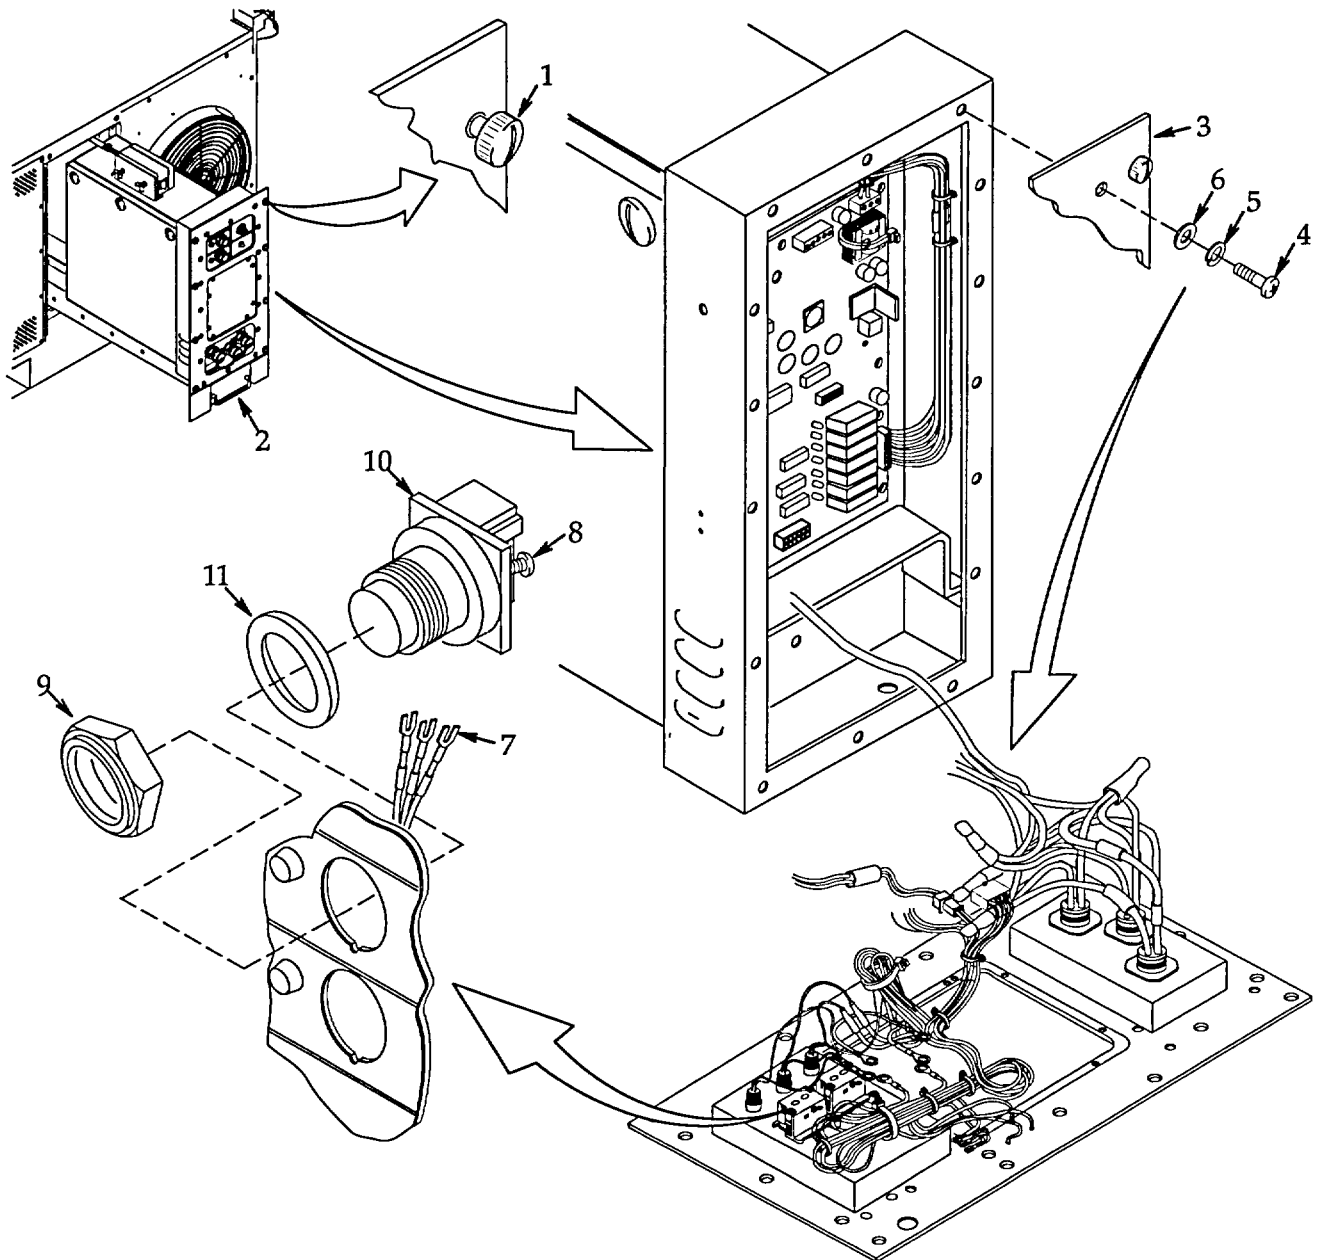

Figure 4-42. Push Button Switches (S4 & S5).
- a. **Removal.** See figure 4-42.
- (1) Shutdown the FDECU per paragraph 2.4 and disconnect it from power source.
- (2) Loosen eight captive screws (1) and carefully pull the electrical assembly (2) out.
- (3) Support control box panel (3) and remove 16 screws (4), lock washers (5), and flat washers (6). Carefully pull control box panel away as far as wire leads will allow. Discard lock washers.
- (4) Tag wire leads (7). Loosen two screws (8) then remove wire leads.
- (5) Remove nut (9), push button switch (10), and sealing washer (11).
- b. **Installation.** See figure 4-42.
- (1) Be sure sealing washer (11) is on push button switch (10) then install push button switch. Align anti-rotation key with notch in sealing washer and panel then secure using nut (9).